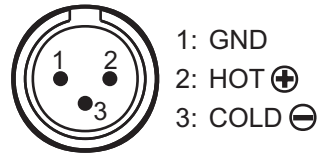

Fig. 4
- (A) Each channel signal output can be connected to the mixer or amplifier's MIC IN jack by using a cable with balanced XLR connector. 3-pin XLR output wiring diagram, as Fig. 4 shows.